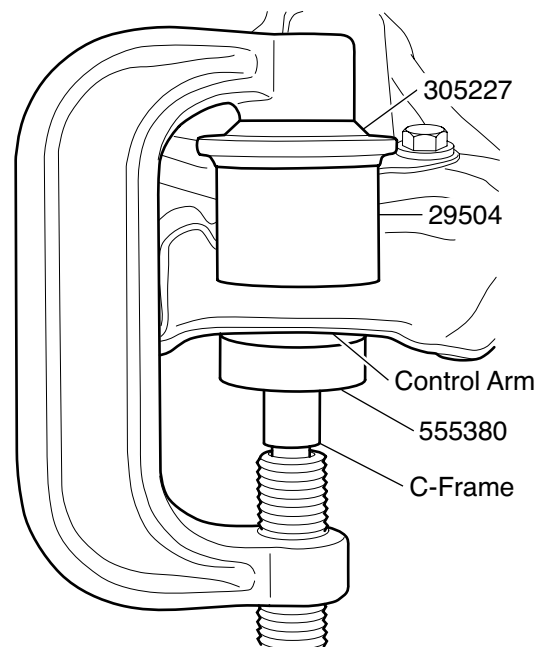

Figure 2. Ball Joint Installation
3. Position 29504 and 305227 on the ball joint as shown in Figure 2.